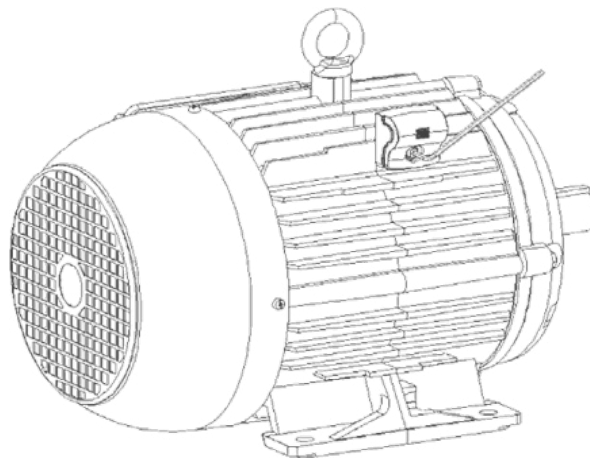

Figure 3.2: Sensor tightening detail on knurled bushing
4. Using a 3 mm Allen wrench, screw the sensor into the knurled bushing and check its tightness. Maximum tightening torque of 2.8 Nm. According to Figure 3.2 on page 11.
4. Using a 3 mm Allen wrench, screw the sensor into the threaded hole and check the tightening. The maximum tightening torque is 2.8 Nm. (see Figure 3.2 on page 11).
4. Using a 3 mm Allen wrench, screw the sensor into the knurled bushing and check its tightness. Maximum tightening torque of 2.8 Nm. (see Figure 3.2 on page 11).